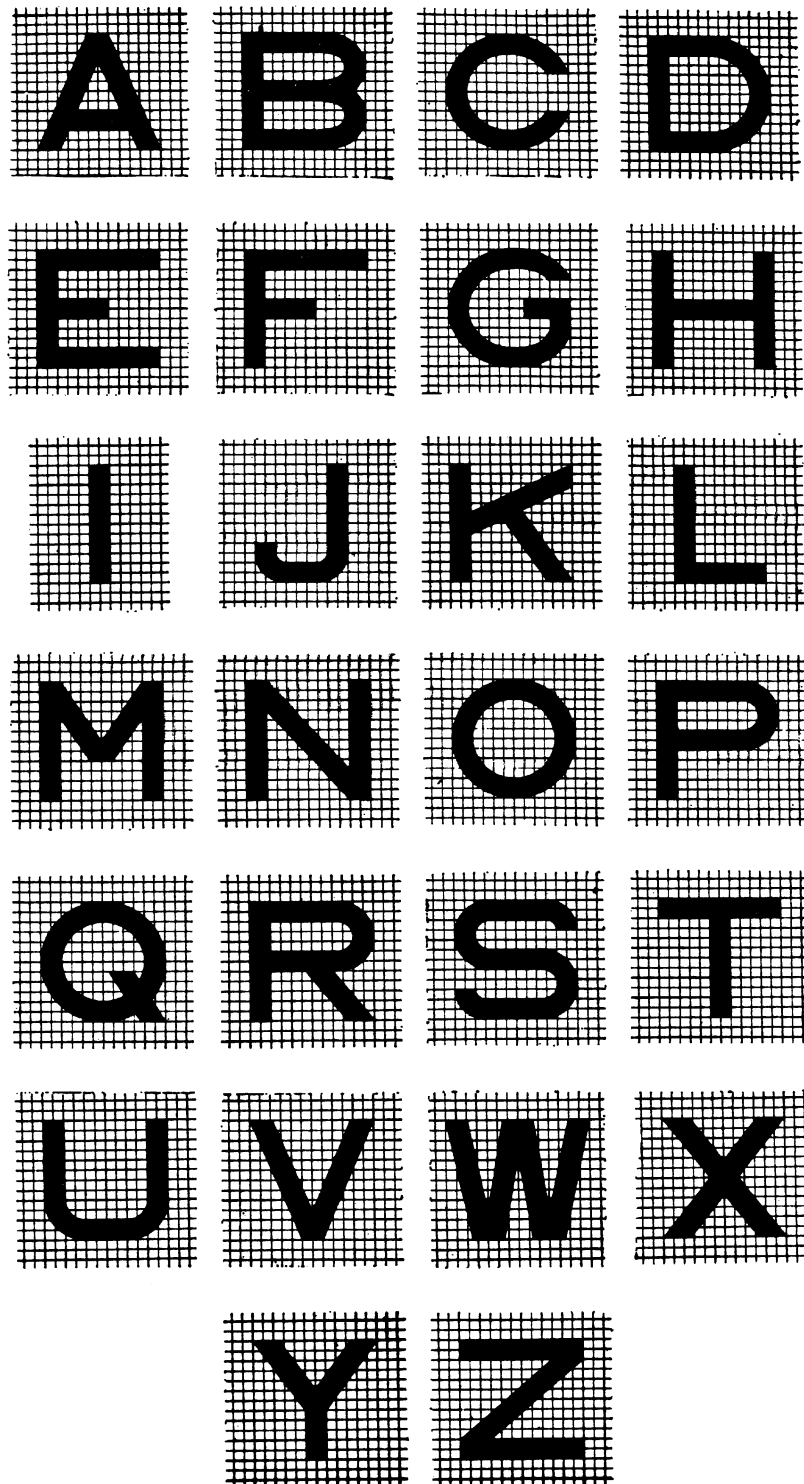

FIGURE 1. Letter font
3.1.2.1 Letter design: The recommended letter form is shown on figure 1. This font is available for paste-up layout work, in double the specified sizes, as Artype S-274. The letter designs shown in MS33558 are acceptable for parts covered by this specification. The following commercial fonts having the size ratios specified herein for the classes and types of control panels covered by this specification may be used. Where there is limited panel space for the panel nomenclature, a News Gothic Condensed letter font may be used upon the approval of the procuring activity. Stroke width of engraved letters shall be the same as that of the acceptable type fonts of the same letter heights.